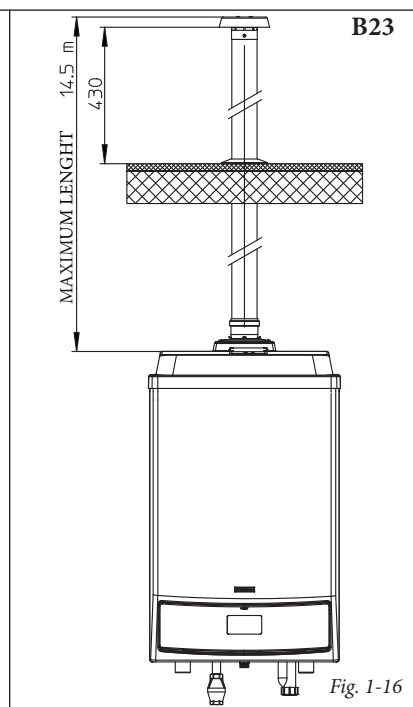

Fig. 1-16
- Extensions for vertical exhaust kits. The maximum vertical straight length (without bends), used for Ø 80 exhaust pipes is *14,5 metres* (Fig. 1-16).